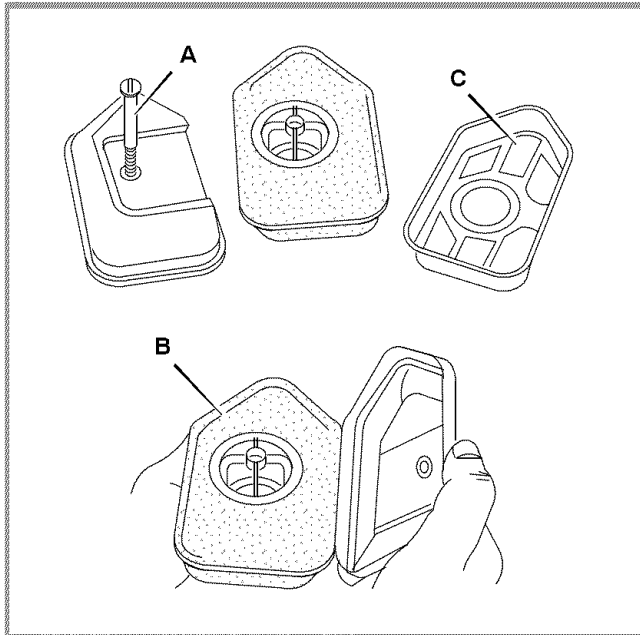

Figure 22: Change Air Filter
- 2 Remove screw (A) as illustrated in Figure 22.
- 4 Take the air cleaner apart and clean all parts. If the filter (B) is very dirty or damaged, replace it with a new filter.
- 5 Install the filter and cup in the air cleaner body (C).